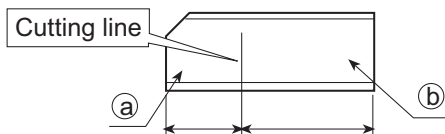

Fig. 4
- Cut open the pad along cutting line. Use part (a) only and discard part (b). (Refer to Fig. 4)